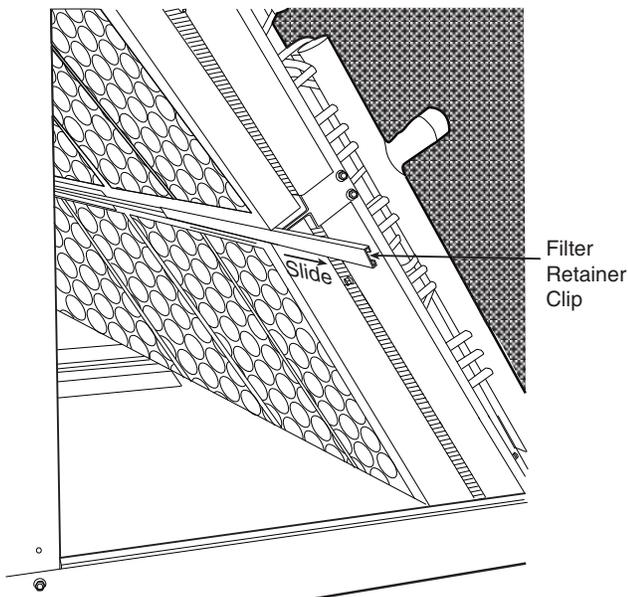

Fig. 36 — Remove Filter Retainer Clip
2. Remove the filter retainer clip (see Fig. 36).